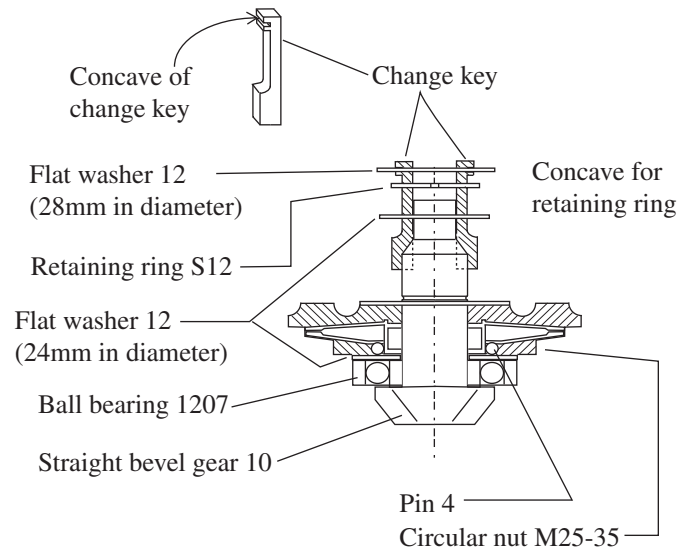

Fig. 24
1. Assemble ball bearing 1207, flat washer 12 (24mm in outer diameter) and torque limiter complete to straight bevel gear 10. (see Fig.24)
And then assemble flat washer 12 (28mm in outer diameter) adjusting it in the concaves of change keys. (see Fig.24)
3. Assemble retaining ring S12 into the groove on the shaft of straight bevel gear 10 sliding down 2 change keys. And make sure, whether the retaining ring S12 is assembled in the groove firmly. (see Fig.24 and 25)